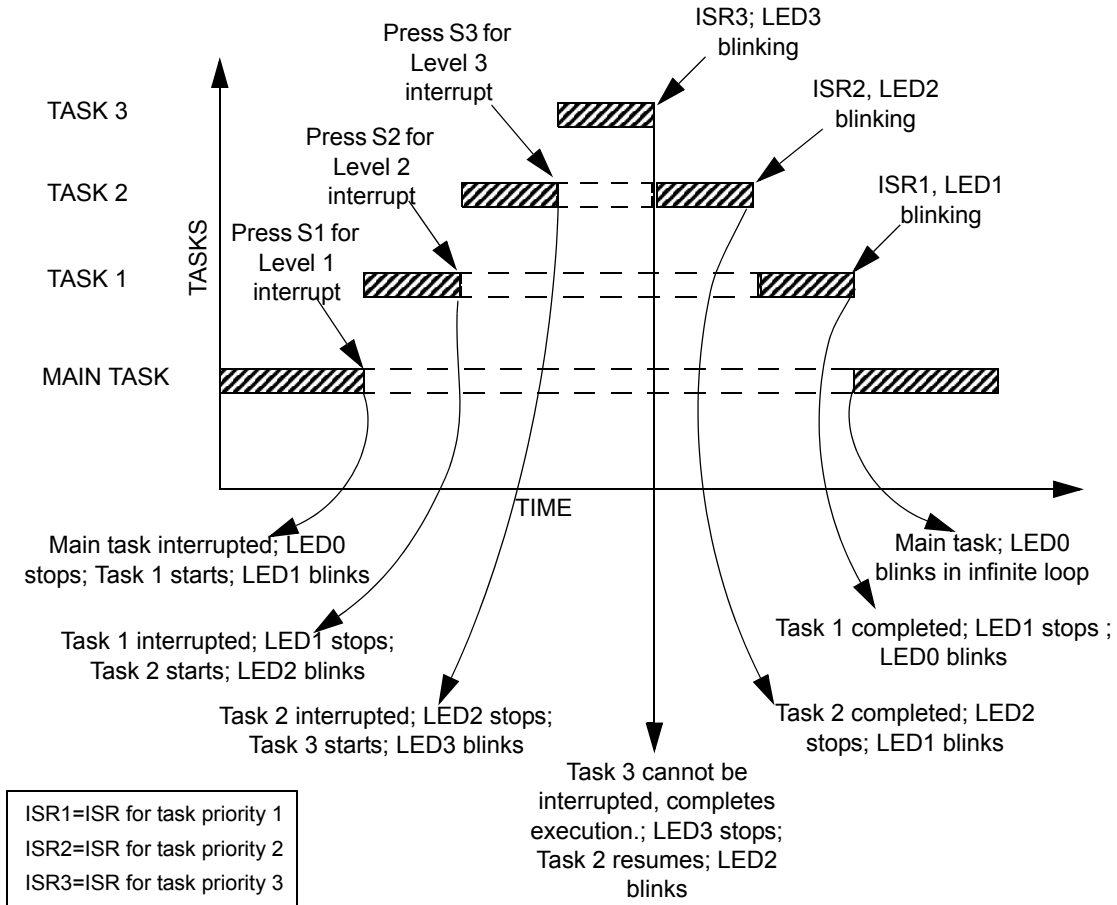

Figure 4. Graphical Representation of Nesting Interrupts Demo
3. While LED0 continues to blink, simulate an interrupt of Priority Level 1 by pressing switch S1 (see Figure 4 on page 8). Observe that the LED0 stops blinking and LED1 starts blinking, indicating that the program is executing the ISR for Priority Level 1, ISR1.
Figure 4 on page 8 graphically displays this demonstration.